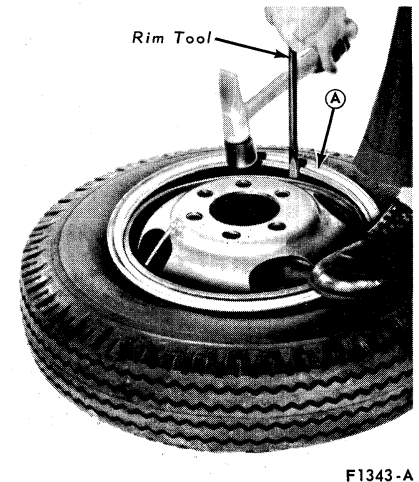

FIG. 13 Installing Slide Ring
6. Insert a rim tool or large screw driver in the tool notch and pull the ring on and down toward the rim gutter (Fig. 13).
8. Remove the rim tool and continue the mallet blows (Fig. 13), starting at the tool notch and progress counterclockwise until the entire ring is in the rim gutter. The ring will turn easily on the rim after it is fully assembled.